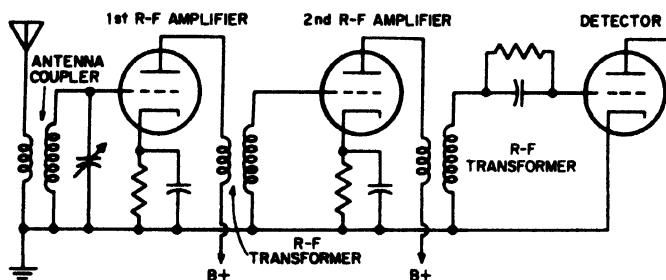

Fig. 23-1. Diagram showing the circuit of two transformer-coupled radio-frequency amplifier stages.
**The Tuned Radio-Frequency Transformer.** If you examine Figure 23-1, you will see that the radio-frequency transformer resembles the antenna coupler. The only difference is that the secondary winding of the antenna coupler is in a tuning or “tuned” circuit, whereas the secondary of the radio-frequency transformer is not. However, it was soon discovered that certain advantages could be gained if the secondary of the radio-frequency transformer was made a part of a tuned circuit by connecting it with a
When we use two stages of tuned radio frequency amplification (Fig. 23-2), we have three tuned circuits. Thus, our set is much more selective than if we had only one tuned circuit (Fig. 23-1). See Figure 23-3.